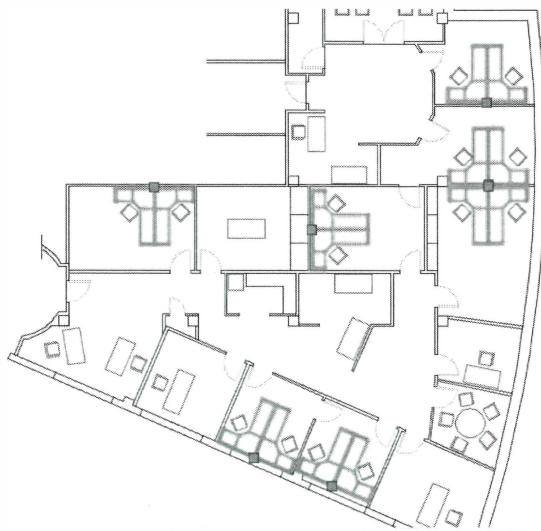

Figure 1–31
4. Right-click and select **Select Similar**. All of the double sided corner desks are selected, as shown in Figure 1–31. Press <Esc> to exit the command.